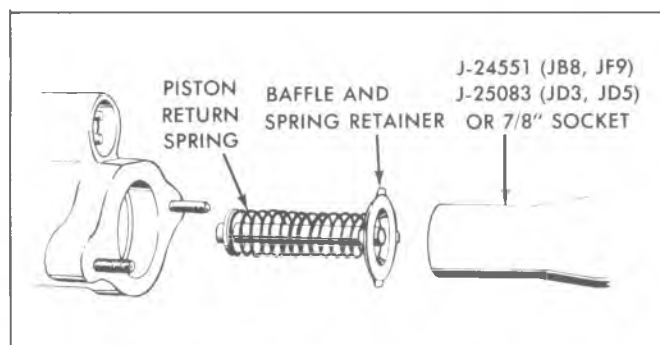

Fig. 5-14E--Installing Baffle and Spring Retainer
15. Secure new baffle and spring retainer using Piston Installing Tool or 7/8" socket as shown in Figure 5-14E.